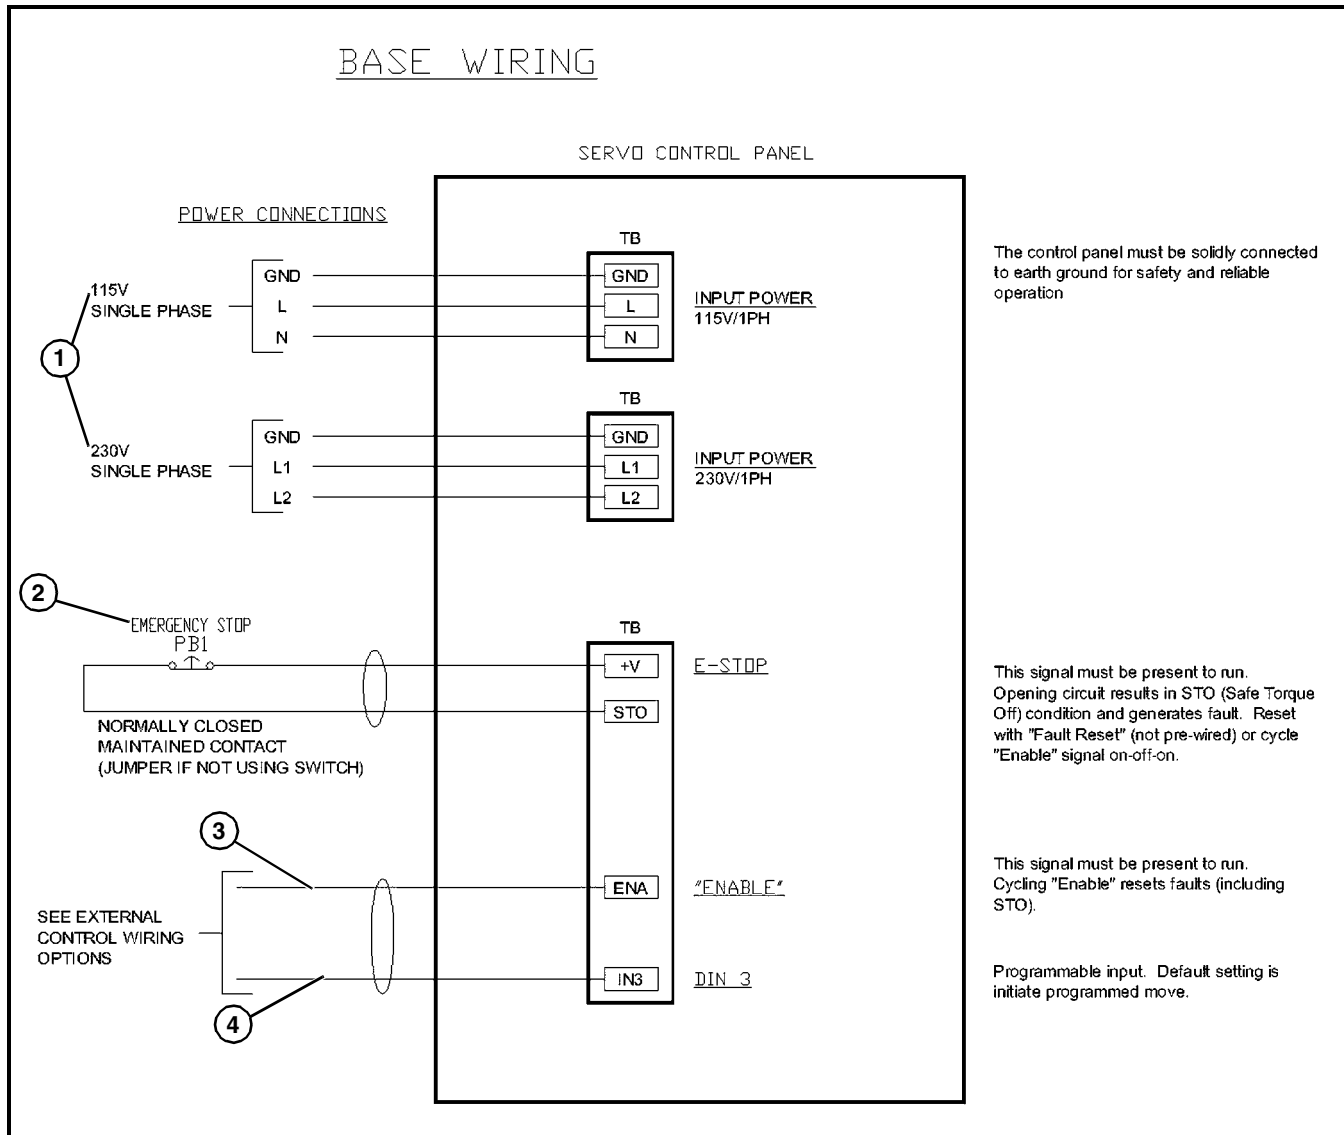

Figure 26
This wiring must be completed for all applications/configurations. Minimum connections include input power (**Figure 26, item 1**), Emergency Stop (**Figure 26, item 2**), Enable (**Figure 26, item 3**), and Initiate (**Figure 26, item 4**).